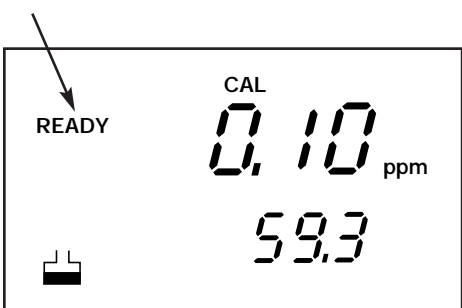

Figure 33
6. If you **DO** wish to calibrate to 0.10 ppm, make sure the electrode is in the 0.10 calibration standard. The meter will display the mV output of your electrode in the standard solution in the lower display. Allow the mV reading to stabilize. When the reading stabilizes the **READY** indicator will appear on the display. —See Figure 33.